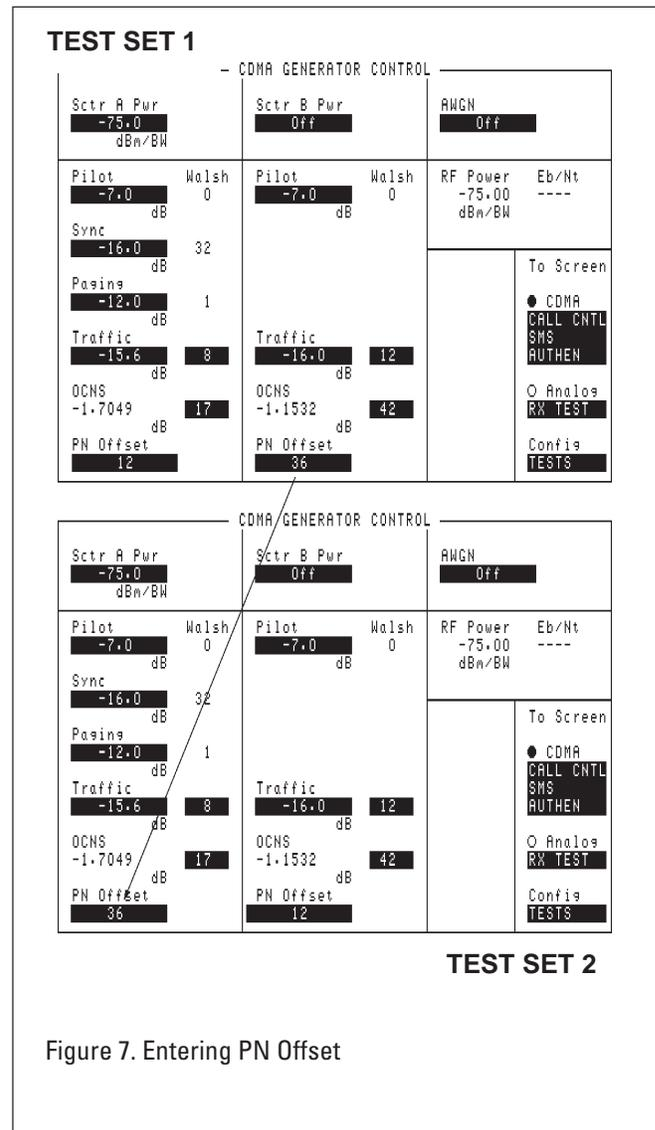

Figure 7. Entering PN Offset
- Enter the same **PN Offset** displayed in Sector B (**Sctr B Pwr**) on Test Set 1 into the Sector A **PN offset** field on Test Set 2 (see Figure 7).